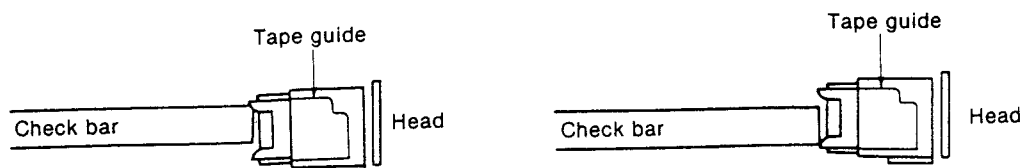

Fig. 4
- * If the check bar comes in contact with the tape guide, make adjustments as follows. (See Fig. 4.)